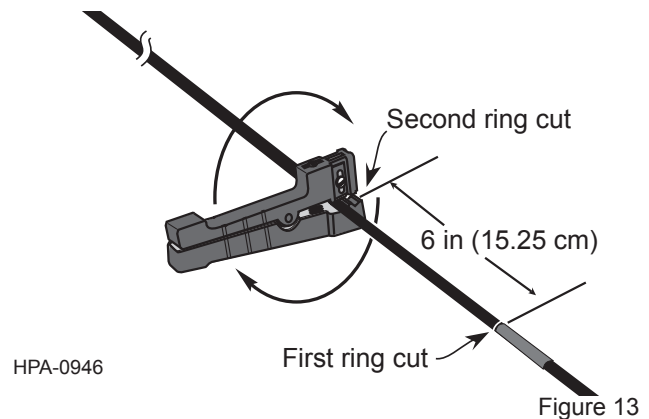

Figure 13
- Step 3:** Measure 6 in (15.25 cm) from the first ring cut (on the same side of the tape) and make a second ring cut at that point (Figure 13).